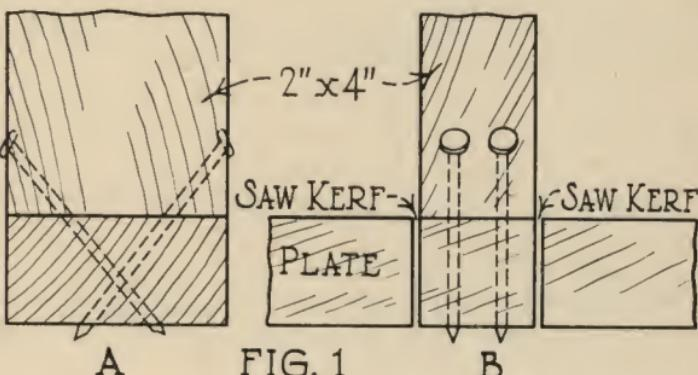

FIG. 1
**Toe-Nailing as in Figure 1, Saves Damage to Saws
A side view of the toe-nailing from the edge is shown in figure 1 at A, and an edge view at B. The saw kerf on each side of the studs, through the plate is shown illustrating how there is no danger to the saw with this method.